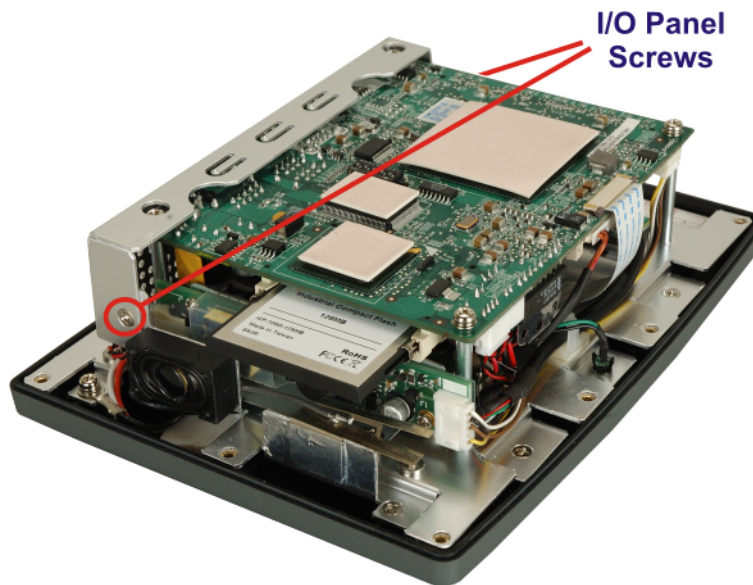

Figure 4-2: Aluminum Back Cover Retention Screws
Step 2: Remove the two retention screws holding the bottom panel (Figure 4-2).